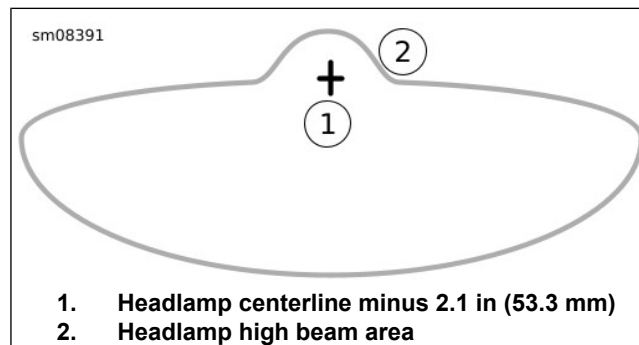

Figure 97. Headlamp Pattern: Frame-Mounted Fairing Models
- c. **LED, frame-mounted fairing:** See Figure 97. Center of hot spot at mark with headlamp set to **high beam**.
- b. See Figure 97. Adjust headlamp light beam.